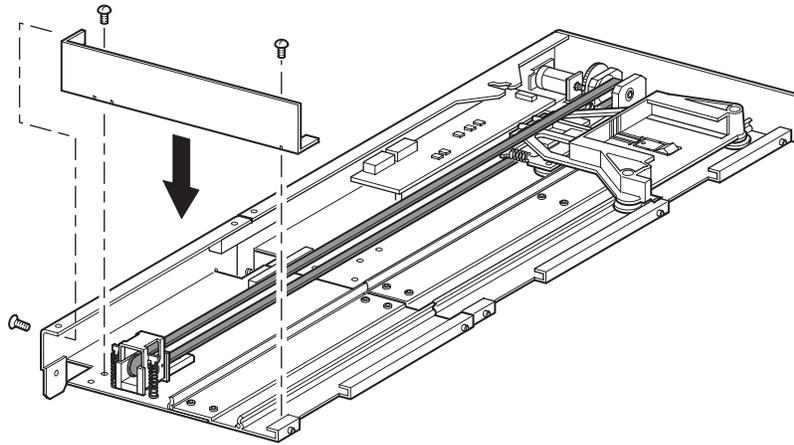

Figure 2–20: Installing the bottom plate
1. Use the handle while supporting the PTM base unit from the bottom (see Figure 2–6).